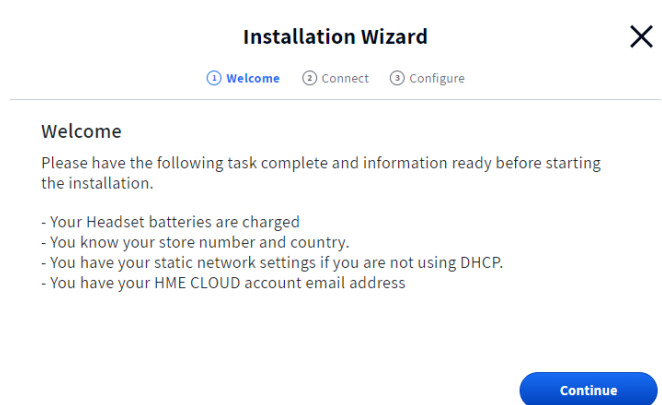

Fig. 2.6
9. On the Base Station UI, follow the Installation Wizard to connect and configure the system (see Fig. 2.6).